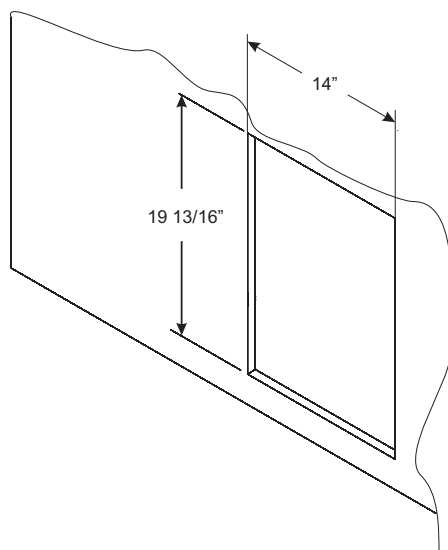
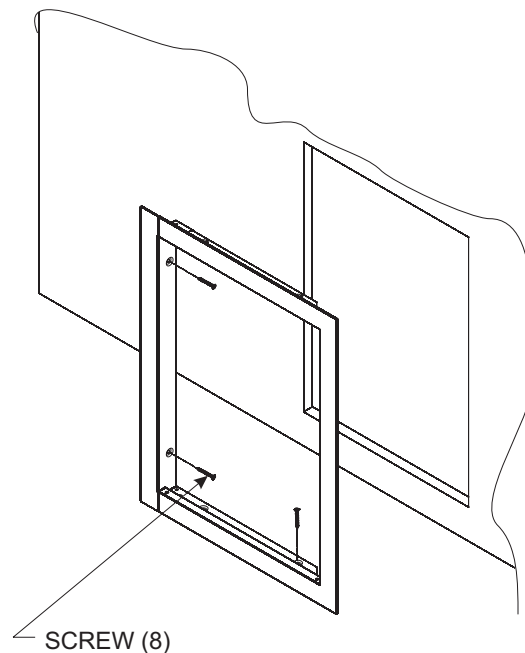

Figure 2
Figure 3
2. Make sure BDA Single Door opening dimensions match those in Figure 2. Place the Frame into the opening and check for proper hole alignment. Secure the Frame to the grill enclosure with eight (8) 8 x 3/4" Hex Head Screw screws. See Figure 3.